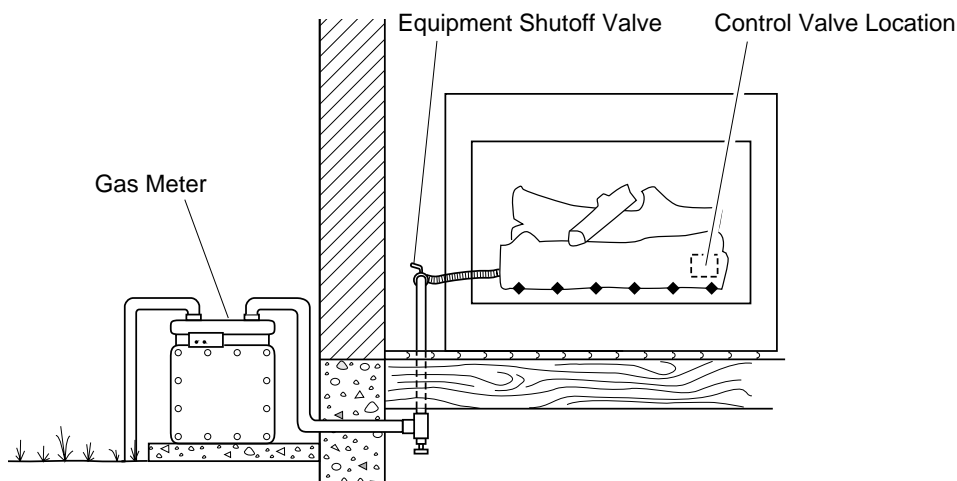

Figure 16 - Checking Gas Joints
3. Check all joints from gas meter to equipment shutoff valve (see Figure 16). Apply a noncorrosive leak detection fluid to gas joints. Bubbles forming show a leak.
4. Check all joints from equipment shutoff valve to control valve (see Figure 16). Apply a noncorrosive leak detection fluid to gas joints. Bubbles forming show a leak.